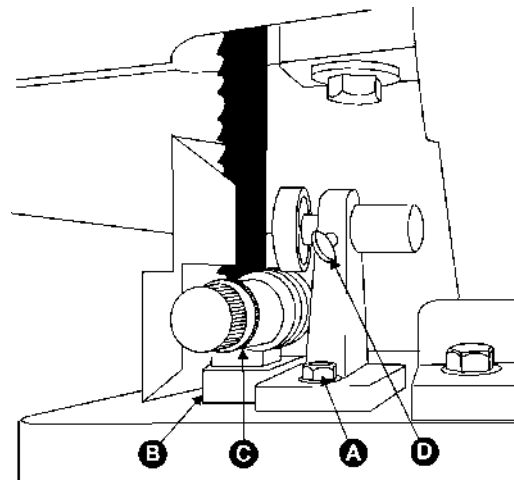

FIGURE 11
3. Loosen two hex cap bolts (A), Figure 11.
4. Adjust the guide bracket (B) so that the front of the guide wheels are just behind the gullet (curved area at the base of the tooth) of the blade teeth.
5. Tighten two hex cap bolts (A).
6. Loosen lock nuts (C) on both guide wheel assemblies.
8. Tighten both lock nuts (C).
9. Loosen thumb screw (D).
11. Tighten thumb screw (D).